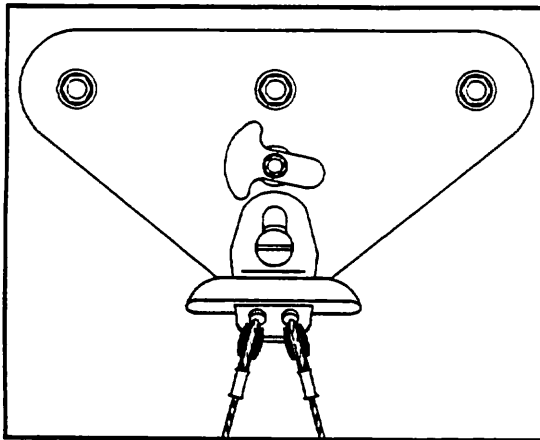

Figure 24
a) In order to install or remove the keyhole nose tang, the anchor must be rotated into the position shown in figure 24. This will allow the keyhole tang to be in a position far enough forward to slide onto or disengage from the collared bolt. With the anchor in this position, use normal procedures to engage or disengage the keyhole tang.